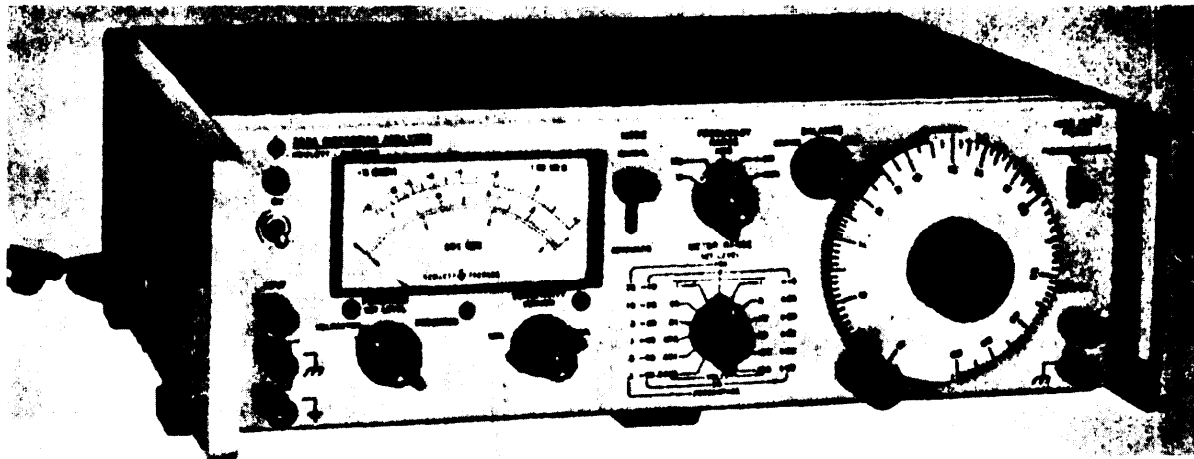

Figure 1-1. Model 333A Distortion Analyzer
This manual includes installation and operation instructions and covers operator's, organizational, direct support (DS), general support (GS), and depot maintenance. It describes Hewlett-Packard (Federal support Code 80537) Distortion Analyzer Models 333A and 334A (fig. 1-1). A basic issue items list for this equipment is not included as part of this manual.